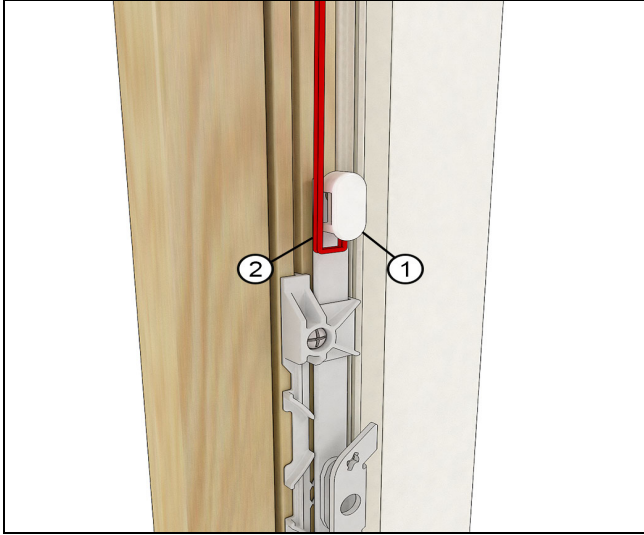

Figure 4 (wood stops removed for illustrative purposes)
1. One sensor is embedded in the frame, behind the locking jamb cover. It is attached to the top of the tie bar on the locking jamb. On Awnings, the sensor will always be located on the right jamb tie bar (as seen from the interior). See Figure 4.